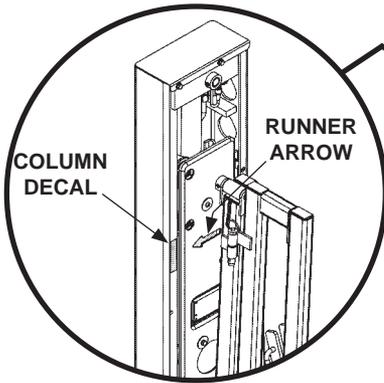
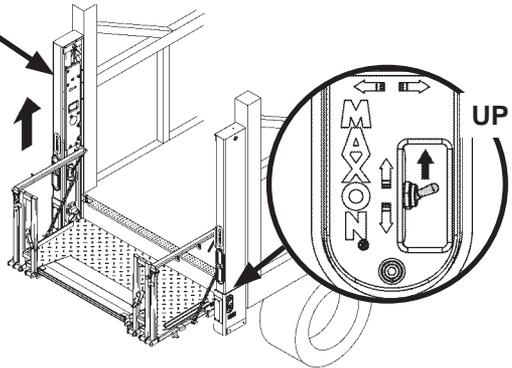

FIG. 26-1B
FIG. 26-1A
1. Use the column switch to raise (UP) platform (FIG. 26-1A) until runner arrow and column decal on LH column are aligned (FIG. 26-1B).